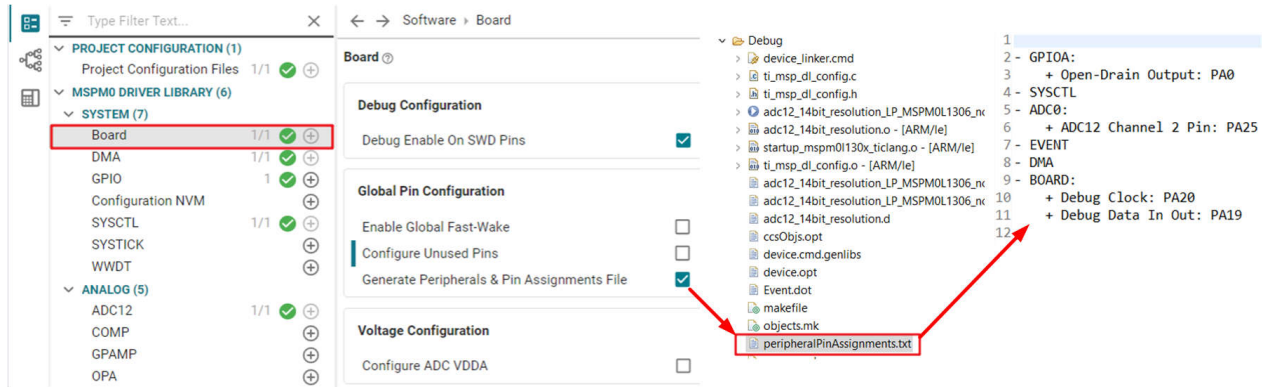

Figure 3-13. Board View
- Generate Peripherals and Pin Assignments File: After enabling, a peripherals and pin assignments file is generated in the *Debug* folder, as shown in Figure 3-13.